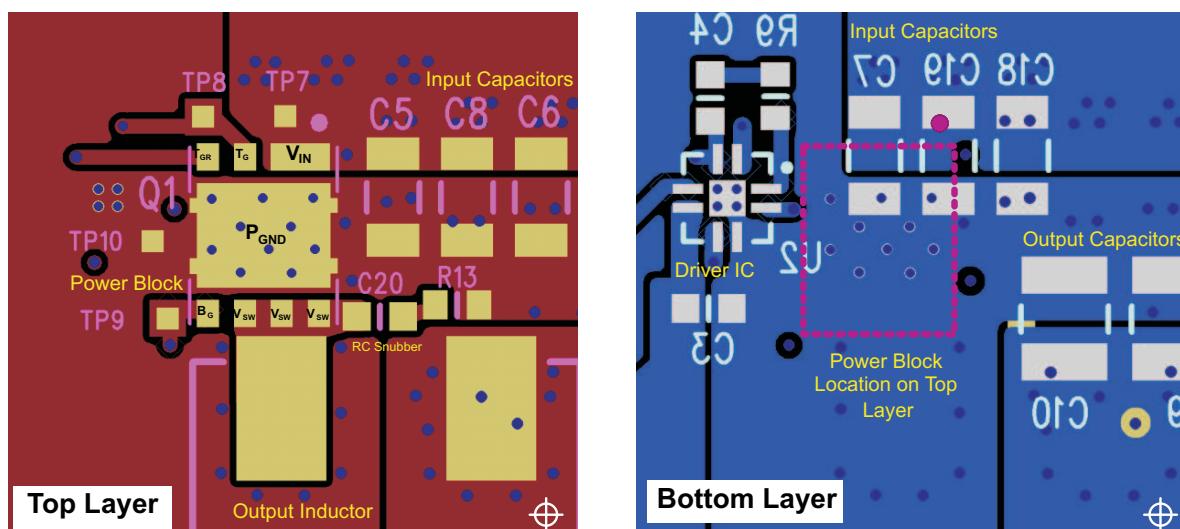

Figure 34. Recommended PCB Layout (Top View)
- The placement of the input capacitors relative to the Power Block's VIN and PGND pins should have the highest priority during the component placement routine. It is critical to minimize these node lengths. As such, ceramic input capacitors need to be placed as close as possible to the VIN and PGND pins (see Figure 34). The example in Figure 34 uses 6×10 μF ceramic capacitors (TDK Part # C3216X5R1C106KT or equivalent). Notice there are ceramic capacitors on both sides of the board with an appropriate amount of vias interconnecting both layers. In terms of priority of placement next to the Power Block, C5, C7, C19, and C8 should follow in order.
- In the event the switch node waveform exhibits ringing that reaches undesirable levels, the use of a Boost Resistor or RC snubber can be an effective way to reduce the peak ring level. The recommended Boost Resistor value will range between 1 Ω to 4.7 Ω depending on the output characteristics of Driver IC used in conjunction with the Power Block. The RC snubber values can range from 0.5 Ω to 2.2 Ω for the R and 330 pF to 2200 pF for the C. Refer to TI App Note SLUP100 for more details on how to properly tune the RC snubber values. The RC snubber should be placed as close as possible to the Vsw node and PGND see Figure 34. ⁽¹⁾
- Use the smallest drill size allowed in your design. The example in Figure 34 uses vias with a 10 mil drill hole and a 16 mil capture pad.